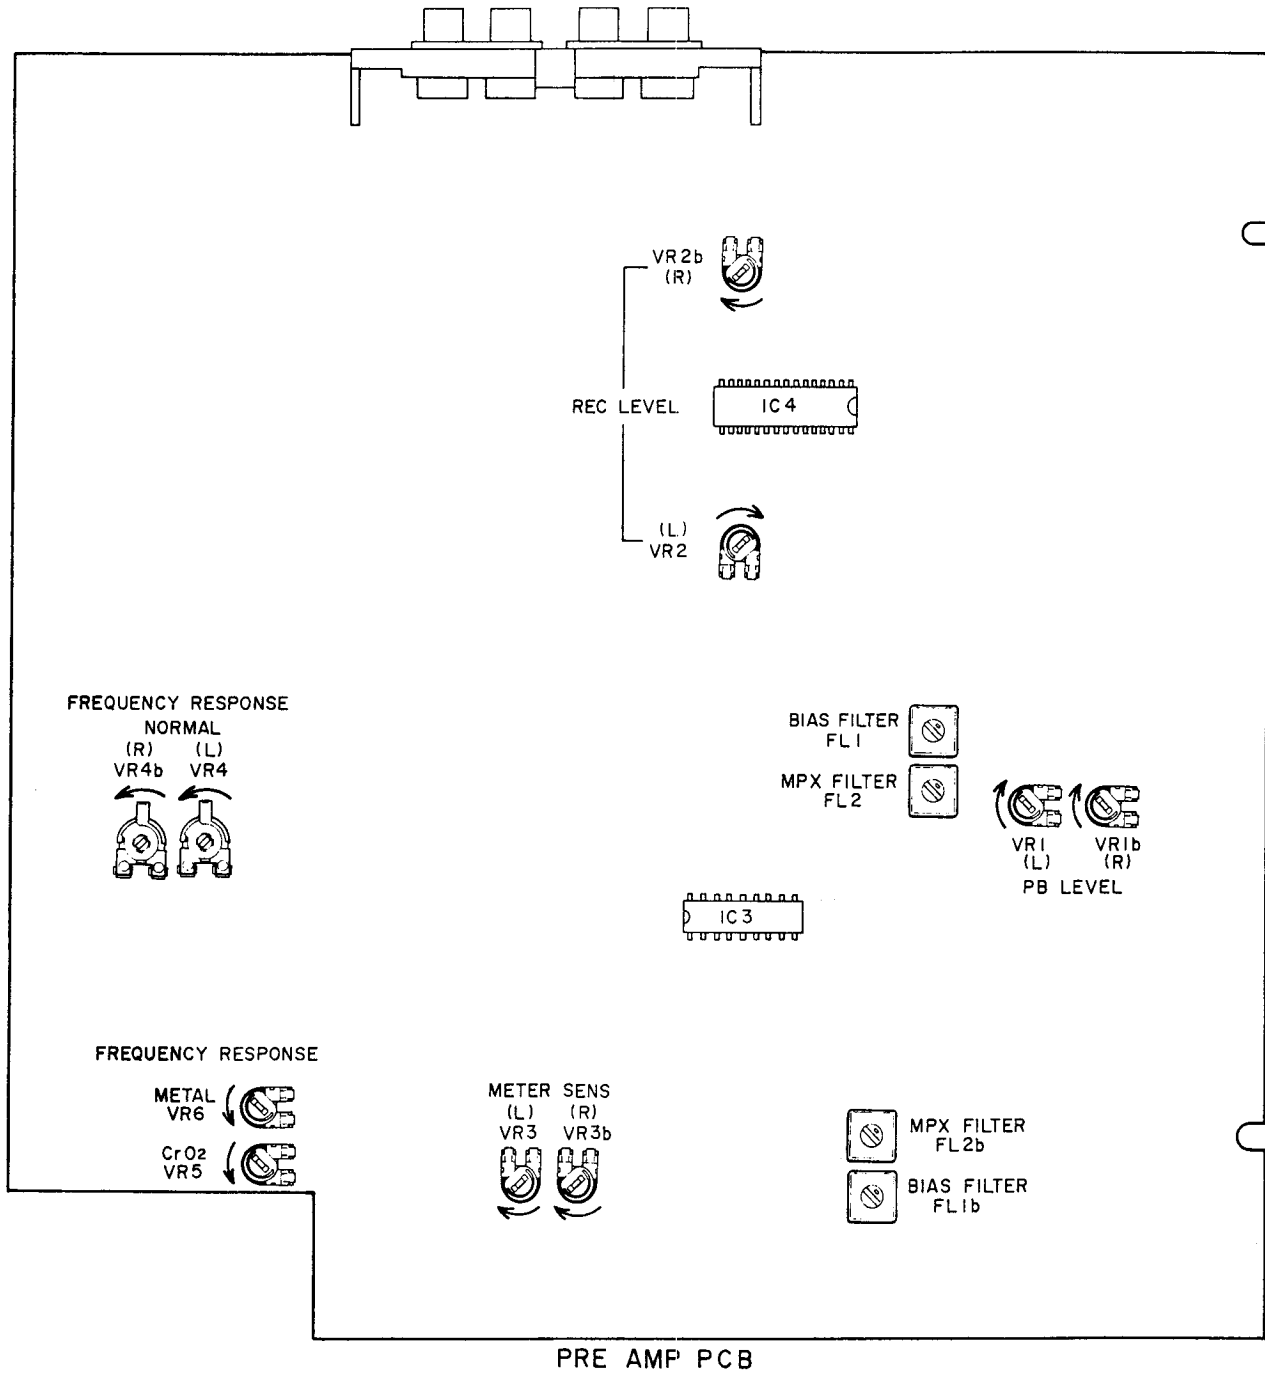

Fig. 8-1 Pre-Amplifier Adjustment Points
3. Refer to Fig 8-1 for the adjustment points.